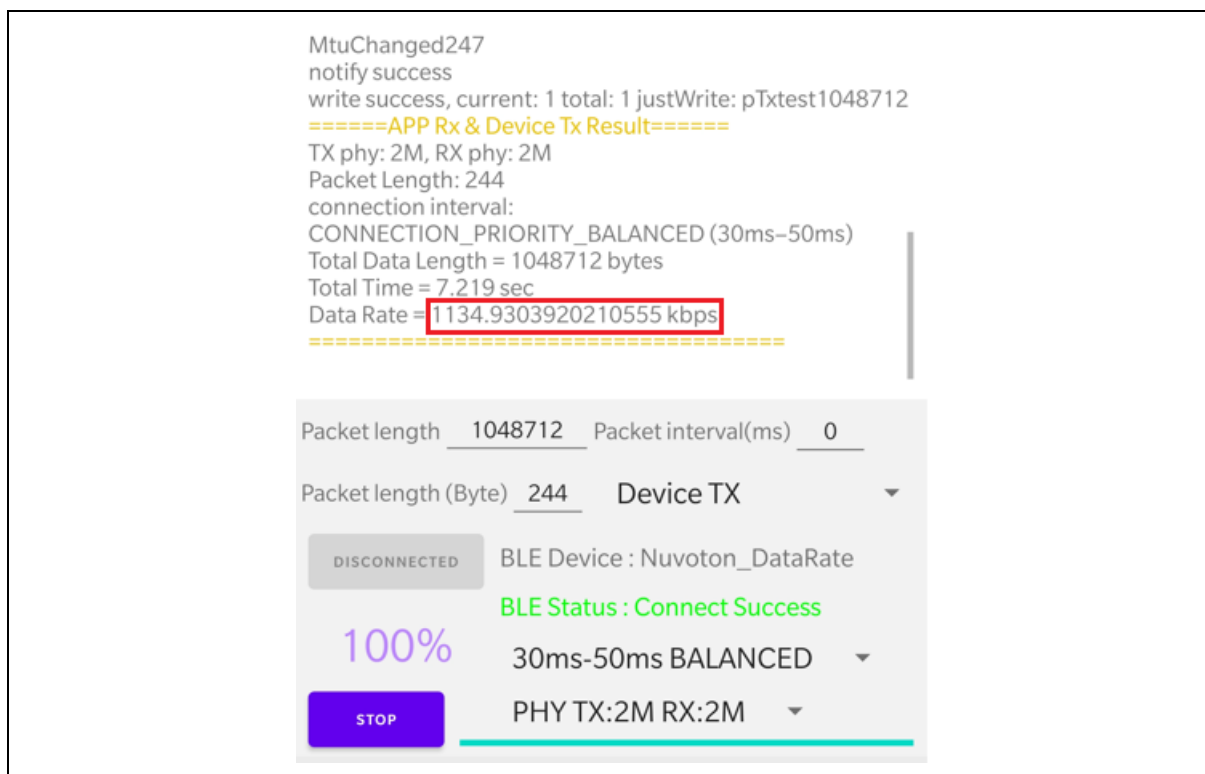

Figure 4-23 DataRate Device TX Test
4. Clicking the RUN button can start a test. After the test is done, you can see the result in console, as shown in Figure 4-23.